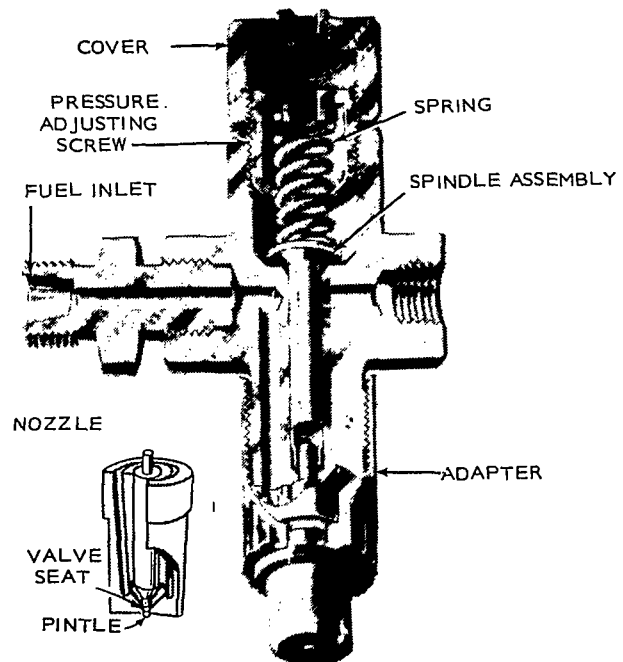

FIGURE 13. INJECTOR NOZZLE HOLDER
1. High pressure fuel from the injection pump enters the fuel inlet stud and flows down drilled passages in the body of nozzle holder, Figure 13.